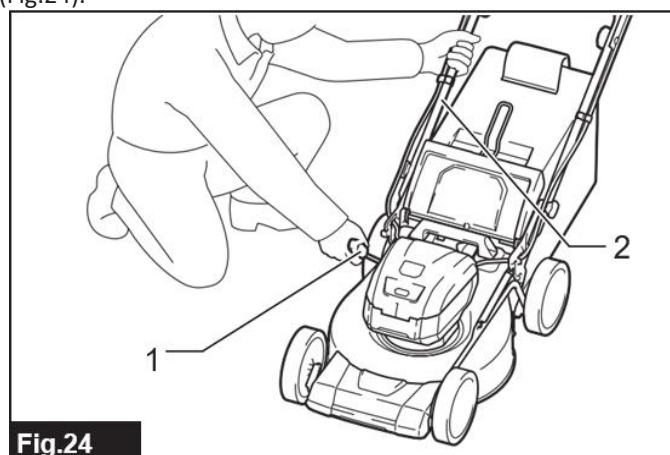

Fig.24
Hold the right lower handle (2) with your left hand and then move the mowing height adjusting lever (1) with your right hand (Fig.24).